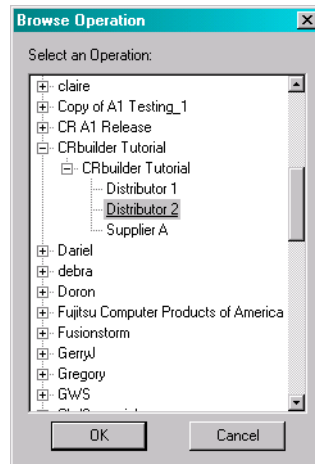

Figure 28-25. Click the Distributor 2 Operation from the CRbuilder Tutorial folder, then click **OK**.
- ❶ Click the Document tab, then select Syncx Data Interchange Operation from the **Document Type** drop-down list.
- ❷ In the **Appliance Name** field, type the name of your Appliance. This is the name of the appliance with the operations that you will be using in this tutorial.
- ❸ Type your username in the **User Name** field.
- ❹ Type your password in the **Password** field.
- ❺ Select Predefined Operation from the **Operation Type** drop-down list.
- ❻ Click **Browse**. The Browse dialog will present you with a list of projects and operations to choose from. You should see e CRBuilder Tutorial project. Click it, then select the Distributor 2 operation from the list. Compare your work to Figure 28-25, below.